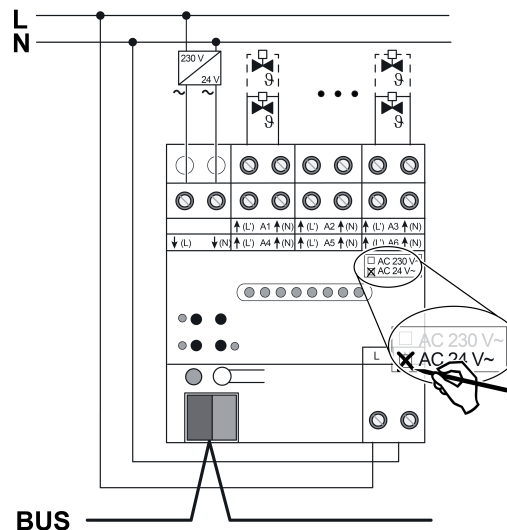

Figure 4: Connection of actuators 24 V
- Connect the AC 24 V valve drives according to the connection diagram (Figure 4).
- Connect the supply for the valve drives to the terminals ↓(L) and ↓(N) (1).
- Connecting the mains voltage to the terminals (5).